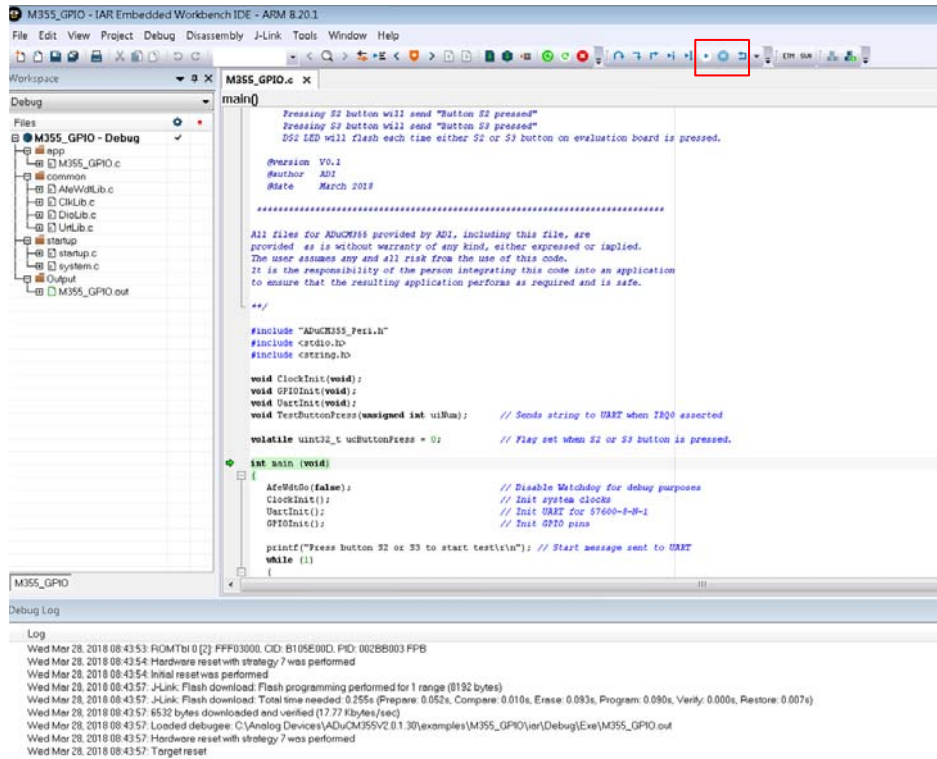

Figure 14. Debug Interface
5. Figure 14 shows the debug interface. Click on the blue arrow to begin code execution. UART prompts the user to press either S2 or S3. The LED (DS2) toggles on and off with each button press.